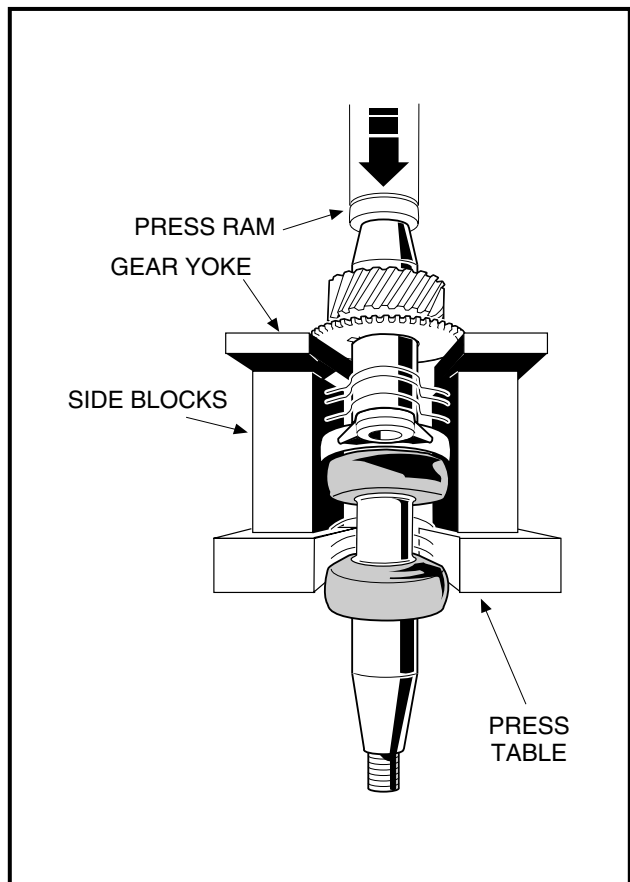

Figure 2-71 Remove Helical and Spur Gears
4. Use a press to push on the end of the crankshaft to remove the spur gear and the helical gear off the crankshaft (Figure 2-71, Page 2-32). See following WARNING and CAUTION.